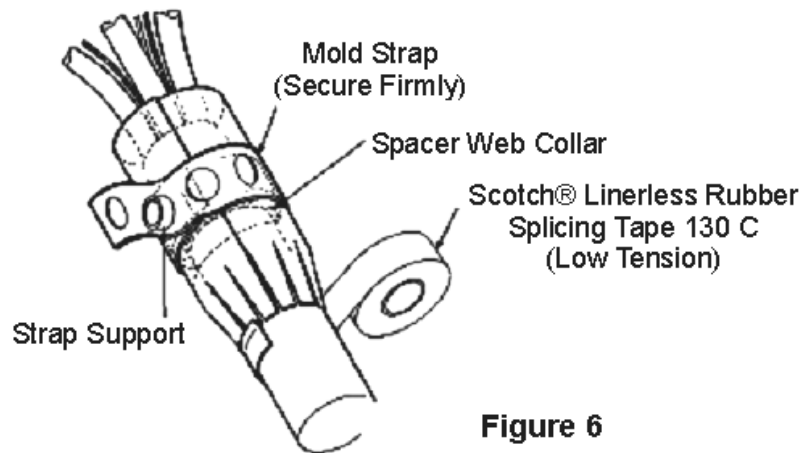

Figure 6
- 3.9 Position strap support on mold, locating it over the spacer web collar. Secure firmly with mold strap. (Figure 6)
- 3.10 Bundle mold's notched edge evenly around cable, maintaining cable centering. Starting ½" (12 mm) on cable jacket, apply a half-lapped layer to Scotch® Linerless Rubber Splicing Tape 130C over the notches. (Figure 6)